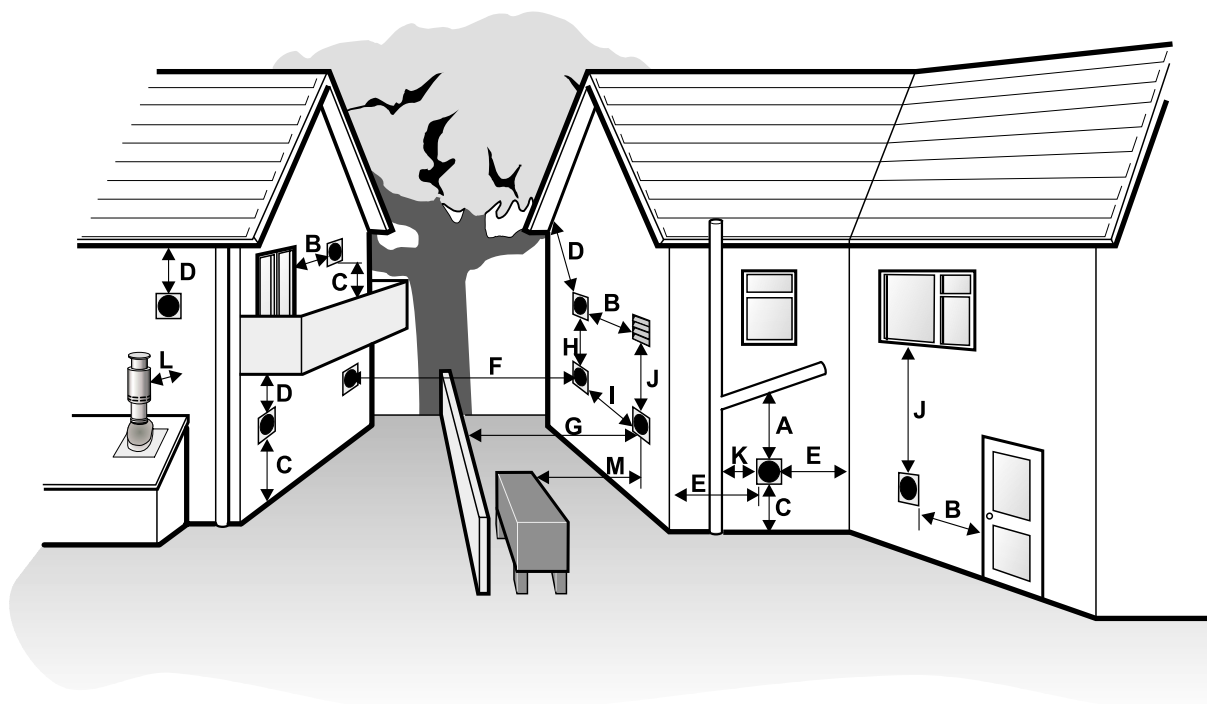

Fig. 11 - Clearances for Balanced flues
- 3 The minimum dimensions for positioning the flue terminal are shown in Fig. 11.